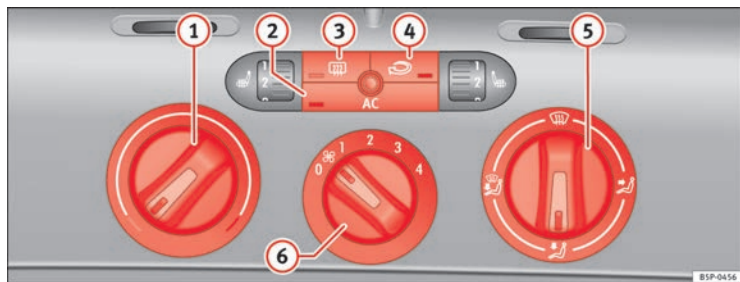

Fig. 128 On the dash panel: Climatic controls
- Using the controls ⇒ fig. 128 ① and ⑤ and the control ⑥ the temperature, air distribution and the fan speed can be set.
- To switch a function on or off, press the appropriate button ②, ③ or ④. When the function is activated, the display window in the lower corner of the button is lit.
- ① Temperature selector ⇒ page 155
- ② Button **AC** – Heating, ventilation and air-conditioning system on/off ⇒ page 155
- ③ Button – Rear window heating. The heating will be switched off automatically approximately 20 minutes after switching on. It can also be switched off beforehand by pushing the button.
- ④ Button – Air recirculation mode ⇒ page 156
- ⑤ Air distribution control ⇒ page 155
- ⑥ Blower switch. There are four speed settings for the air flow. The air flow should always be set at the lowest speed when driving slowly.
- Switch on the air conditioning using the button ⇒ page 154, fig. 128 .